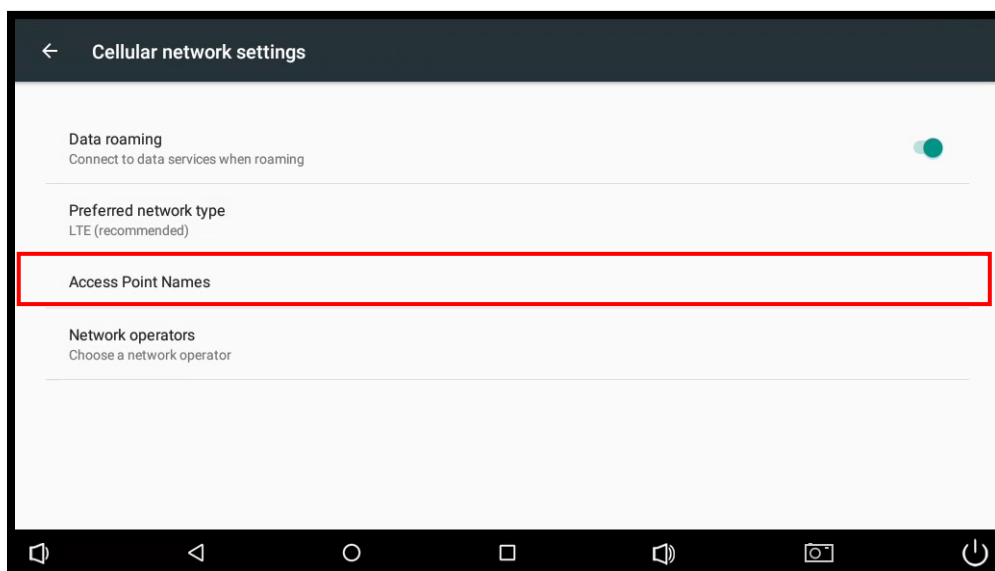

Figure 3.10 Select "Access Point Names"
- 3) Click on **"Access Point Names"** (full form of APN) to finish APN setting (Figure 3.10).